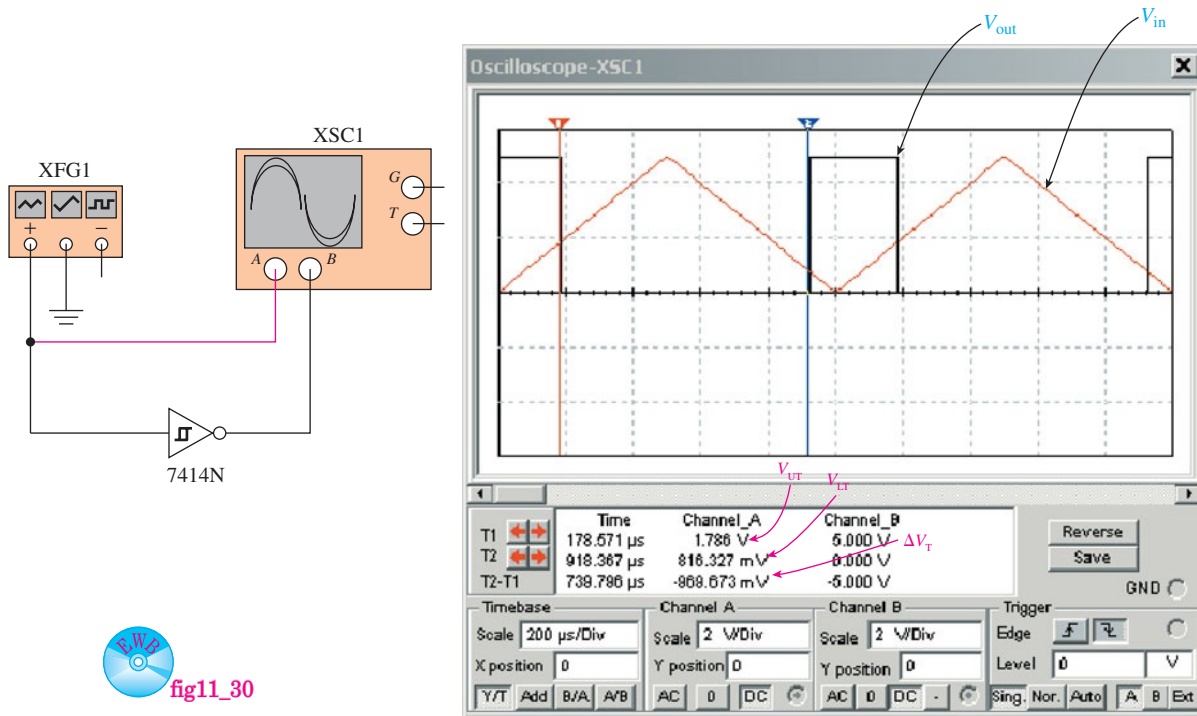

Figure 11–30 Using MultiSIM® to determine the switching thresholds of a 7414 Schmitt trigger.
- Load the file *fig11_30* from the textbook companion website. Double-click the oscilloscope to expand its size, and then turn on the power switch. Drag vertical cursors #1 and #2 to measure V_{UT} and V_{LT} on the triangle wave and determine the hysteresis voltage.